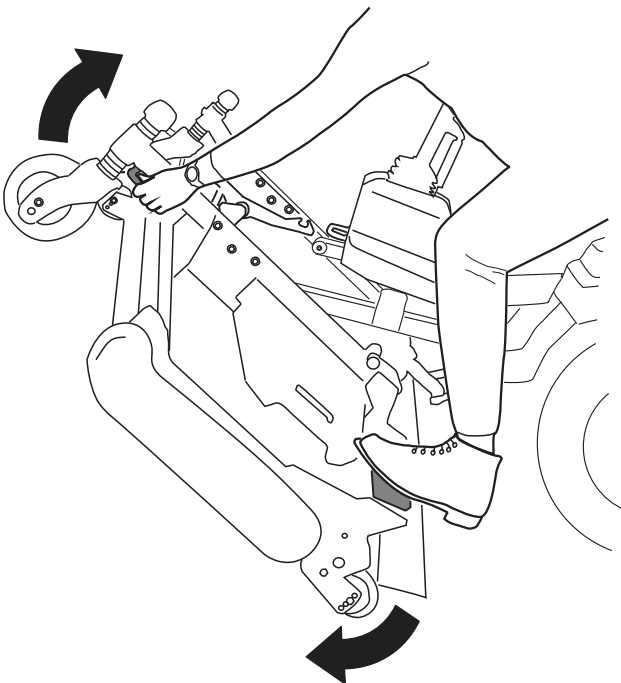
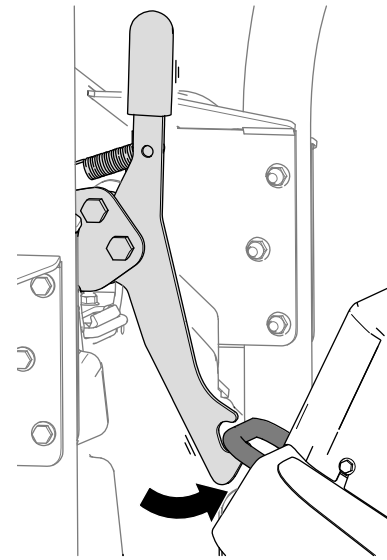

Figure 39
Figure 40
5. Rotate the cutting unit (Figure 39) so that the latch engages with the tie-down bracket (Figure 40).
1. Release the cutting-unit latch from the tie-down bracket (Figure 41) by slightly rotating the cutting unit slightly forward (refer to Figure 39) and pulling the latch handle forward.